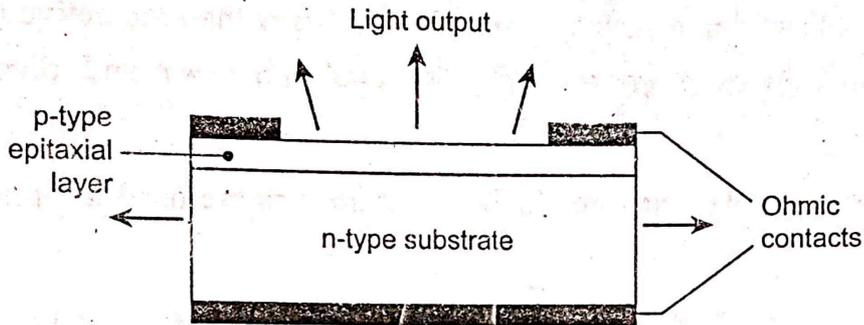

Fig 6.2 Structure of a planar LED
- ❖ Diffusion of *p*-type impurity on an *n*-type substrate can produce a planar LED as illustrated in Fig 6.2.